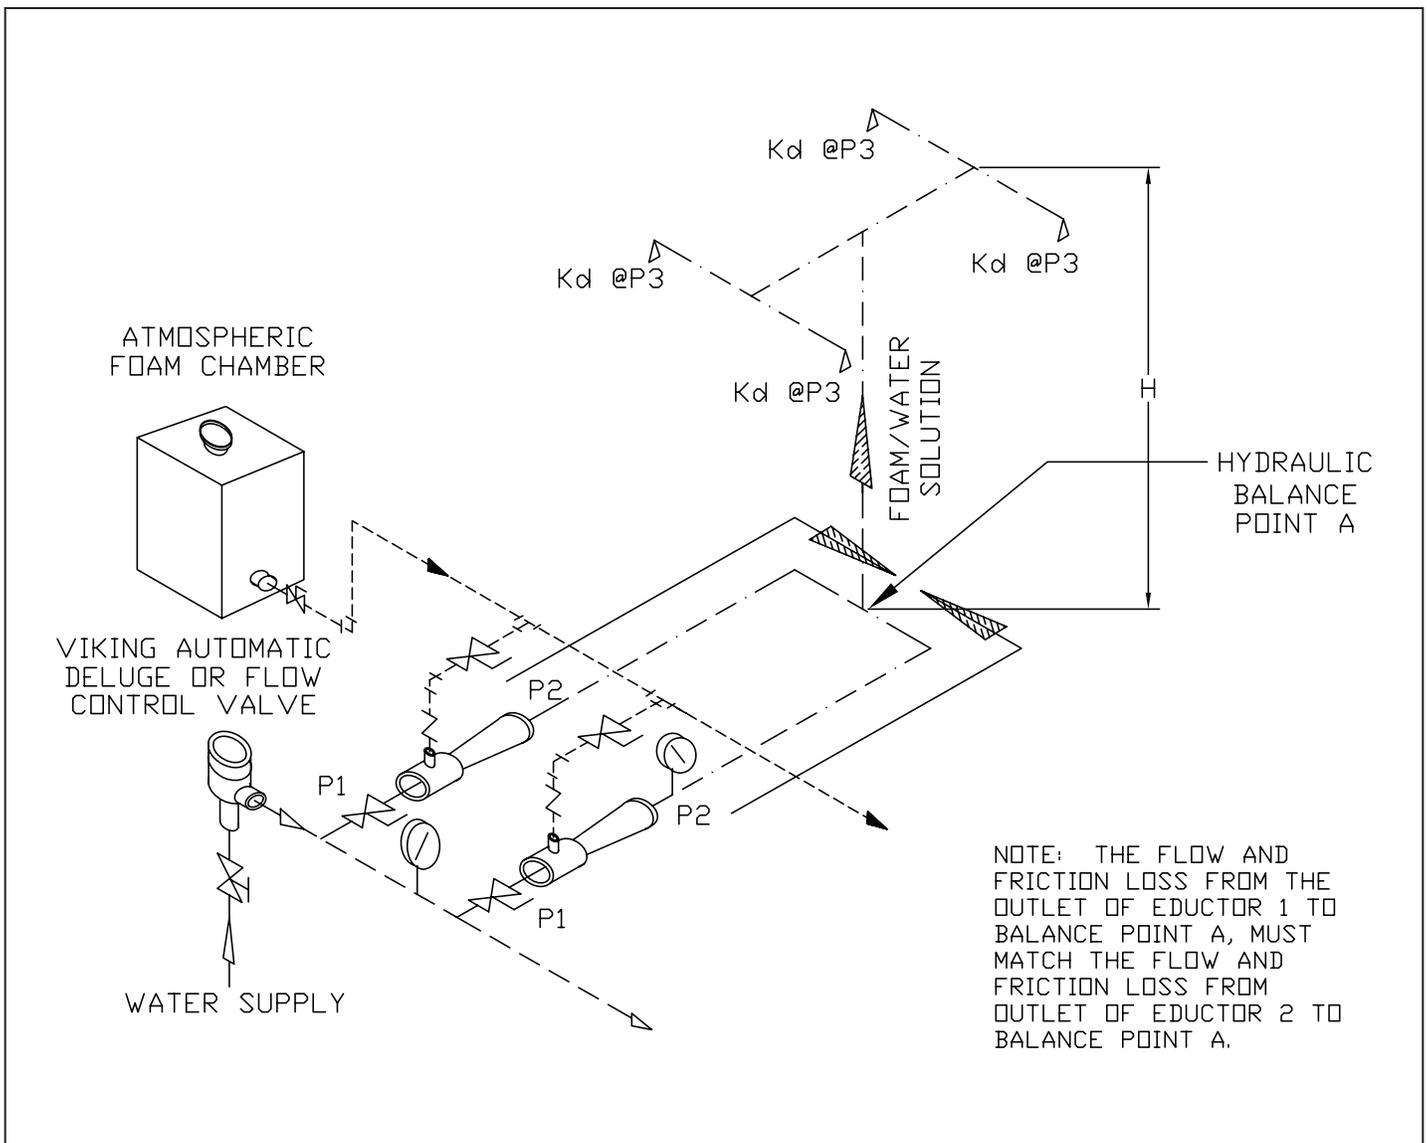

FIGURE 1
The Example in Figure 1 is a small four head system covering approximately 400 ft² of operating area. It will require a .2 gpm/ft² density, and a 10 minute duration, using 3% AFFF foam for a hydrocarbon fuel. The water pressure available is 90 psi at the eductor. This 90 psi inlet pressure will affect the selection process of the eductor, as it will limit the amount of flow which can pass through the eductor. Therefore, the system may require one larger eductor, or multiples of smaller eductors, in order to provide the necessary amount of foam/water solution to the discharge devices. For this example (Figure 1), a pair of smaller eductors will be selected, and the piping from both eductors will be joined together at hydraulic balance point A, for cost savings in labor and materials.
The estimated foam concentrate supply for Figure 1 can be calculated in the same fashion as for larger systems, by using the following formula; **EFC = total system (De) x (A) x (C) x (D) x (1.15)**, so the estimated amount of foam would be:
Viking 1/2" orifice sprinklers have a K-factor of 5.5, so $7.28/5.5 = 1.3$ heads, or possibly two 1/2" orifice heads can be supplied from one FE-60 eductor at the available pressure. The starting pressure for a 1/2" Viking sprinkler at a .2 density over 100 square feet, is 13.22 psi ($P = 20/5.5^2$), well above the listed minimum pressure of 7 psi. The Viking FE-60 eductor, at an inlet pressure of 90 psi, can flow 43.2 gpm, which should be enough to satisfy the 20 gpm per head for 2 heads, or 40 gpm, as shown in Figure 1. For this example, the friction loss and flows through both legs, from the discharge side of each eductor to hydraulic balance point A, must be equal, or the eductors will not function properly. **NOTE:** The piping cannot be joined into a common feed main to supply the four sprinklers from one riser, without insuring that the friction losses and flows are exactly equal in each leg.